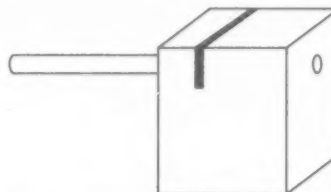

Figure 4 - Dowel Jig - Dark line is 2" from right edge.
11. Obtain dowel cutting fixture and 1/4" dowel (approximately 25"). Clamp fixture in vise. Put dowel through hole in fixture as shown in Figure 4. Cut ten 2" long pieces with the hacksaw or coping saw. Sand sharp corners.